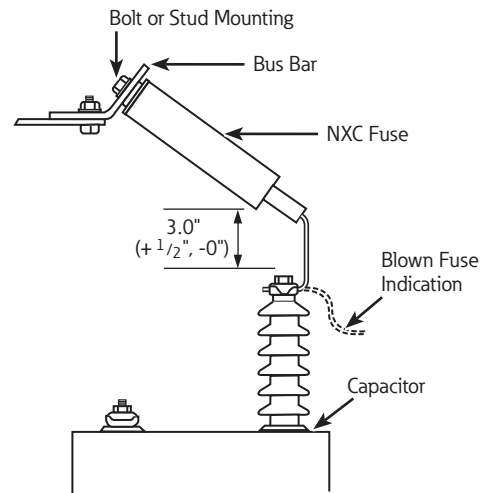
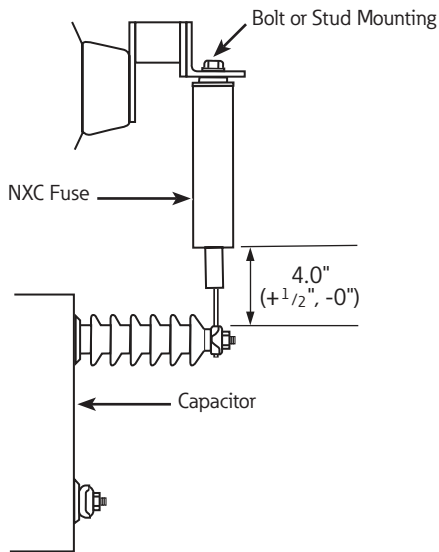

Figure 1. NXC fuse angle-mounted on vertical capacitor bank.
Figure 4. NXC fuse vertically mounted on horizontal capacitor bank.
NXC fuses may be mounted by various means on capacitor blocks. This instruction bulletin provides information for the four standard configurations as shown in Figure 1 through Figure 4.
NXC fuses should be installed with the leader pointing down (see Figure 1 through Figure 4).
4. Check that the recommended spacing exists between end of main fuse housing and closest conductive part on capacitor. Refer to Figure 1 through Figure 4 as applicable.